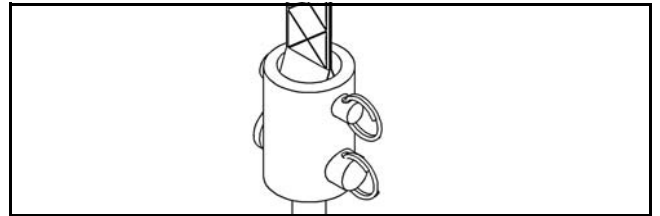

Fig. 5
- 2) Move the ceiling lift directly over the patient. With the four-function model, use the left and right buttons on the hand control (see Fig. 5). With the two-function model, simply hold the ceiling lift's spreader bar and drag it along the track.
- Make sure that the spreader bar is correctly attached to the ceiling lift (see Fig. 5).